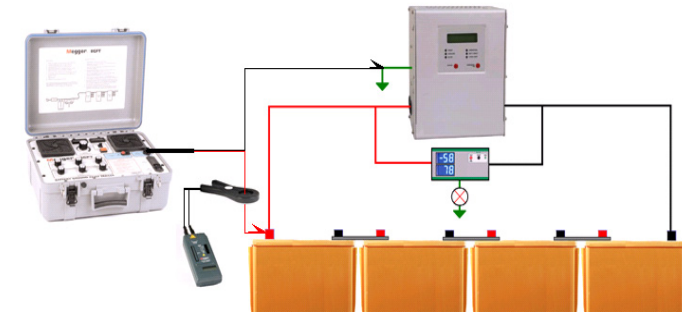

Figure 4: Test Connections
4. Set the receiver to (x100) and place the receiver CT around the red transmitter lead of the BGFT. As shown in Figure 4.